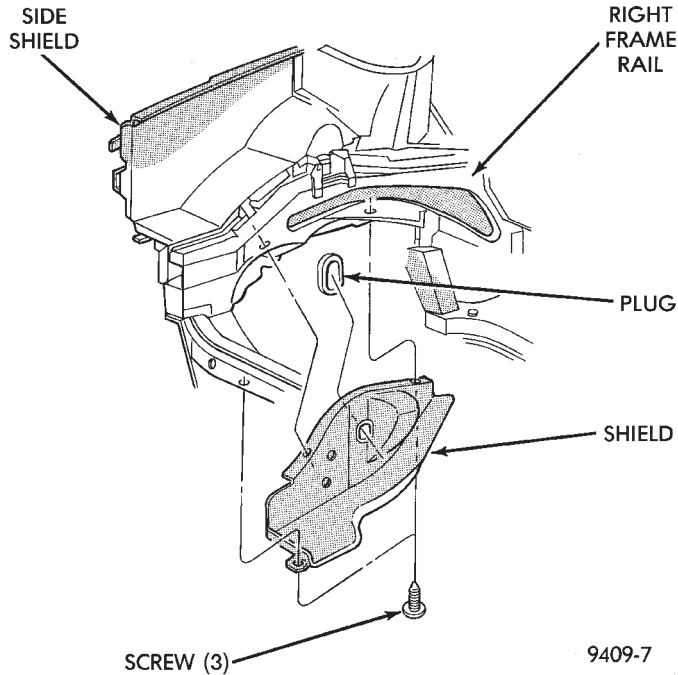

Fig. 59 Right Inner Splash Shield
- (1) Disconnect negative cable from auxiliary jumper terminal.
- (2) Remove accessory drive belts. Refer to Group 7, Cooling System for procedure.
- (3) Raise vehicle on a hoist and remove right inner splash shield (Fig. 59).